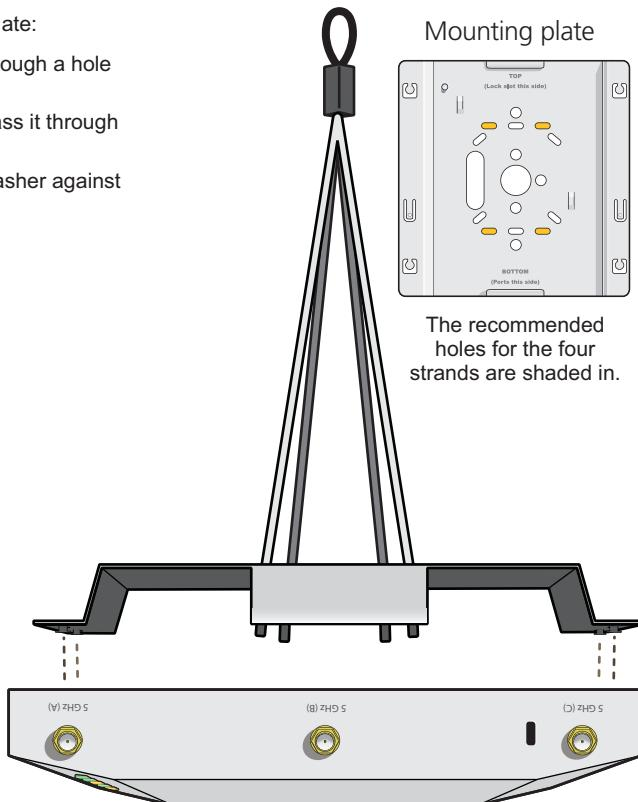

Figure 3-19. Connecting the quad-toggle and SmartPath AP to the mounting plate.
2. Turn the SmartPath AP face down and attach it to the mounting plate (see Figure 3-19).